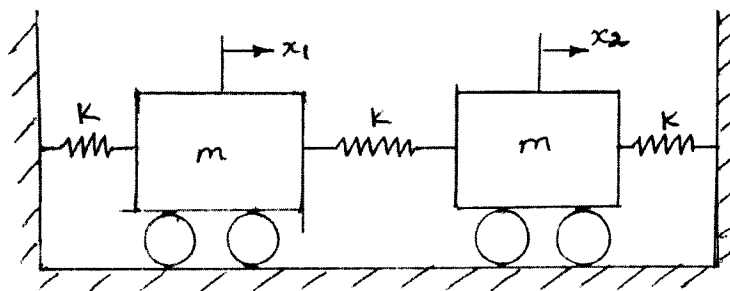

Fig. Q6(b)
- b. A two degree of freedom vibration system shown in Fig. Q6(b). Determine :